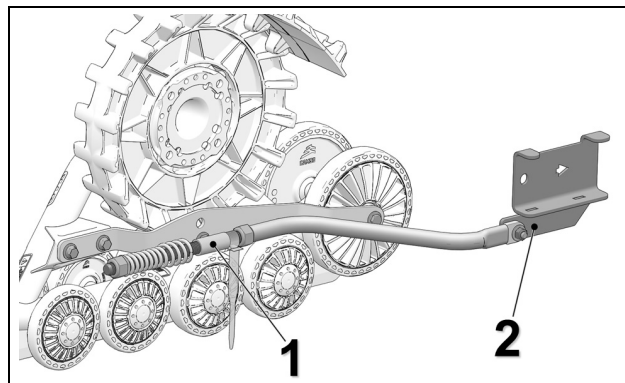

Figure 8
- Stabilizing arm (1) must be attached to Track System and to rear anchor bracket (2) installed on vehicle. See Figure 8.
*NOTE: Actual Rear Anchor bracket (2) mounted on vehicle may differ from the one in the illustration.*